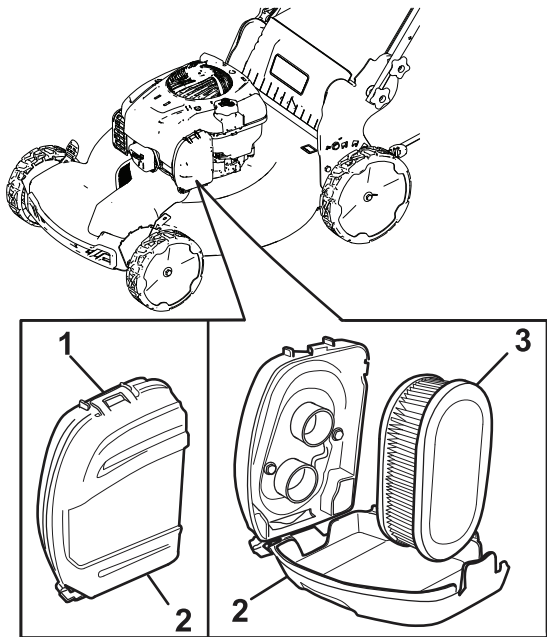

Figure 19
- 1. Unclip the top of the air-filter cover (Figure 19).
- 2. Remove the air filter (Figure 19).